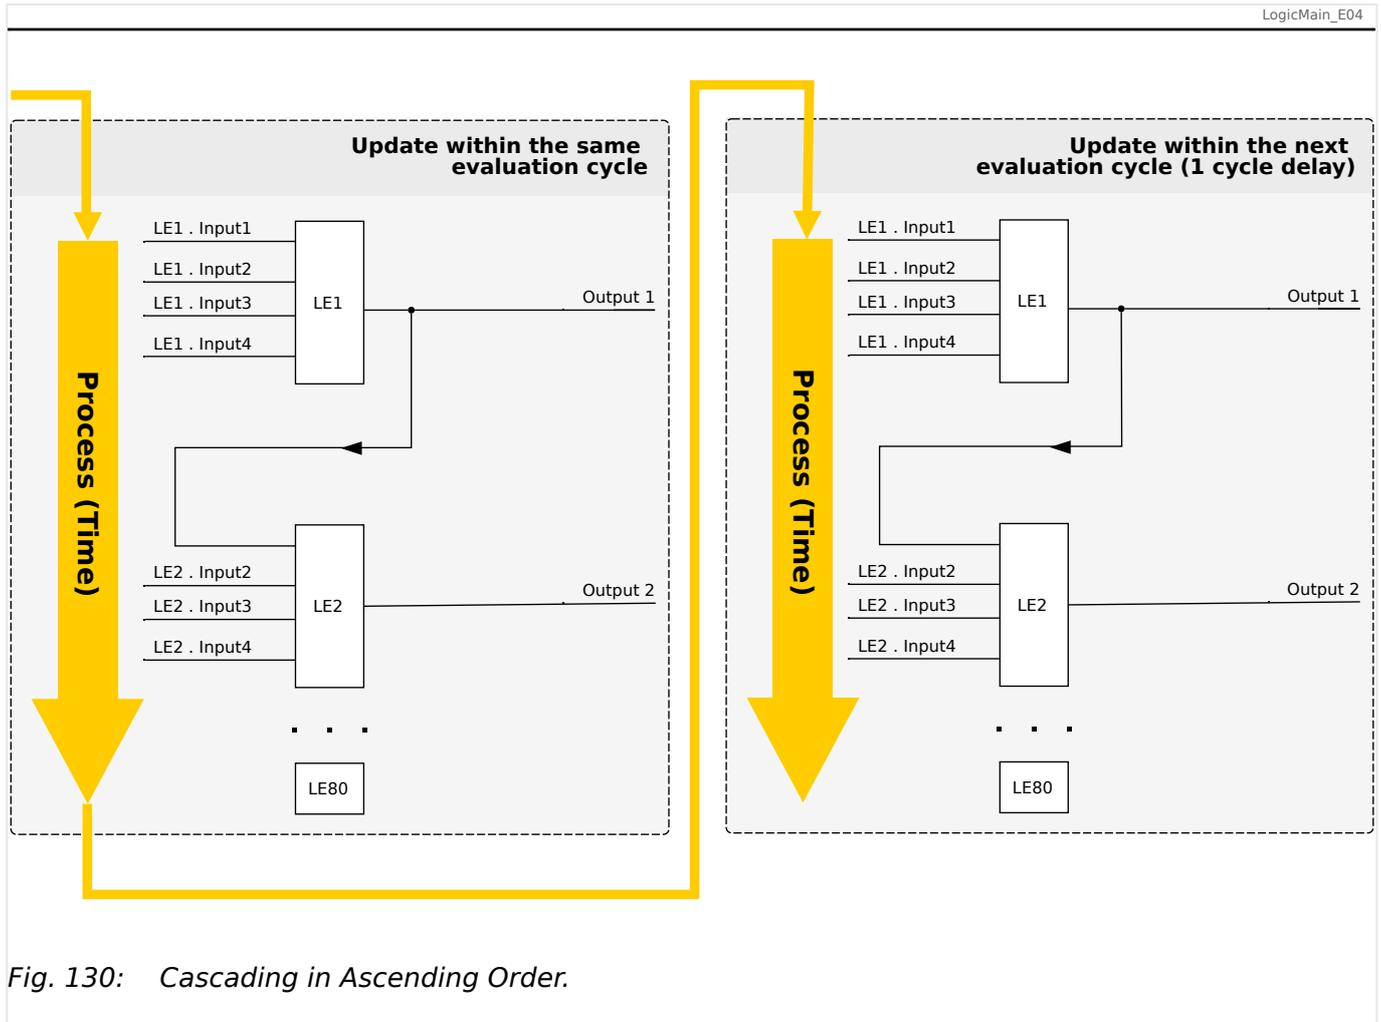
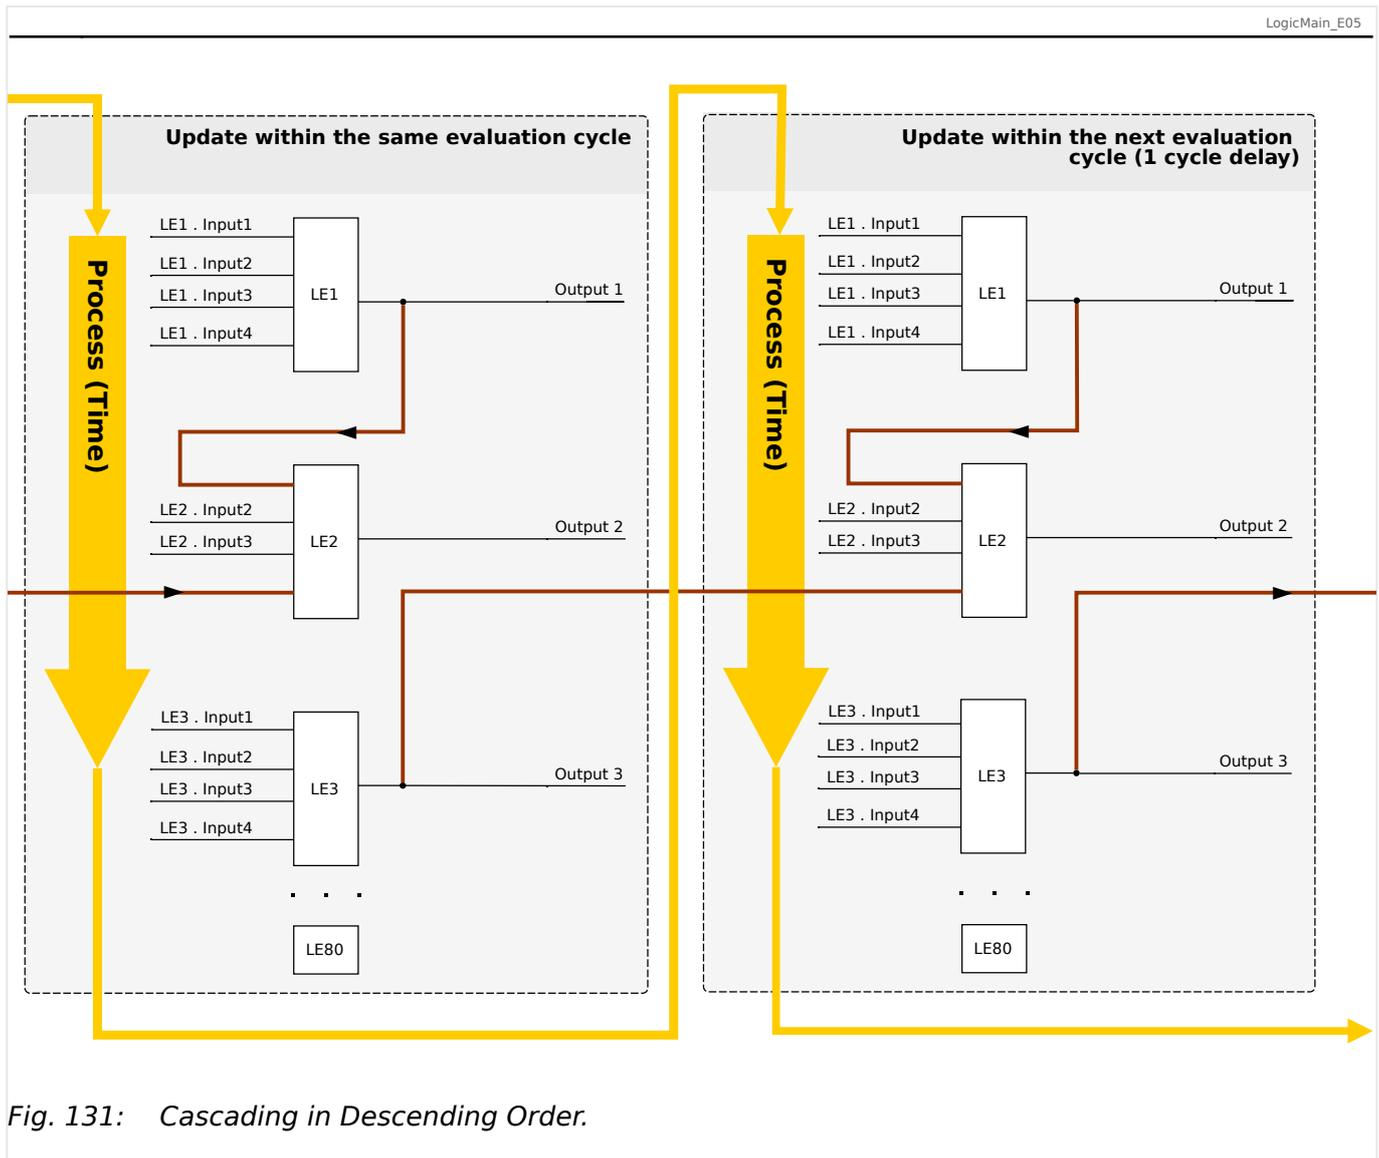

Fig. 130: Cascading in Ascending Order.
Fig. 131: Cascading in Descending Order.
- **Ascending** sequence means that some output is fed into the input of a logic equation with **higher** number. For instance, diagram  Fig. 130 below shows an example where the result of Logic Equation LE1 is used as an input of Logic Equation LE2.
- **Descending** sequence means that some output is fed into the input of a logic equation with **lower** number. For instance, diagram  Fig. 131 shows an example where the result of Logic Equation LE3 is used as an input of Logic Equation LE2.
Both ascending and descending sequences may be used and combined one with the other, with no immediate difference. However, due to the evaluation of all equations in ascending order the actual run-time values that are fed in at the input of an equation will have a different “age”, as is shown in  Fig. 130 and  Fig. 131 below.
In the example shown in Fig. 131 above, "Logic Equation 2" uses the output states of two other equations, "Logic Equation 1" and "Logic Equation 3". The result of "Logic Equation 1" is used in ascending order and has therefore been evaluated within the same process cycle. The result of "Logic Equation 3" is used in descending order and has therefore been evaluated in the previous process cycle.